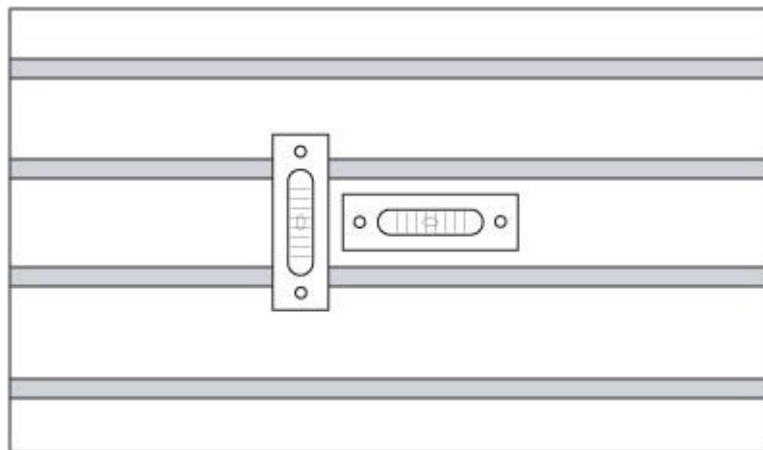

Figure 5-1
6. Set the level gauge at the middle of table as Figure 5-1.